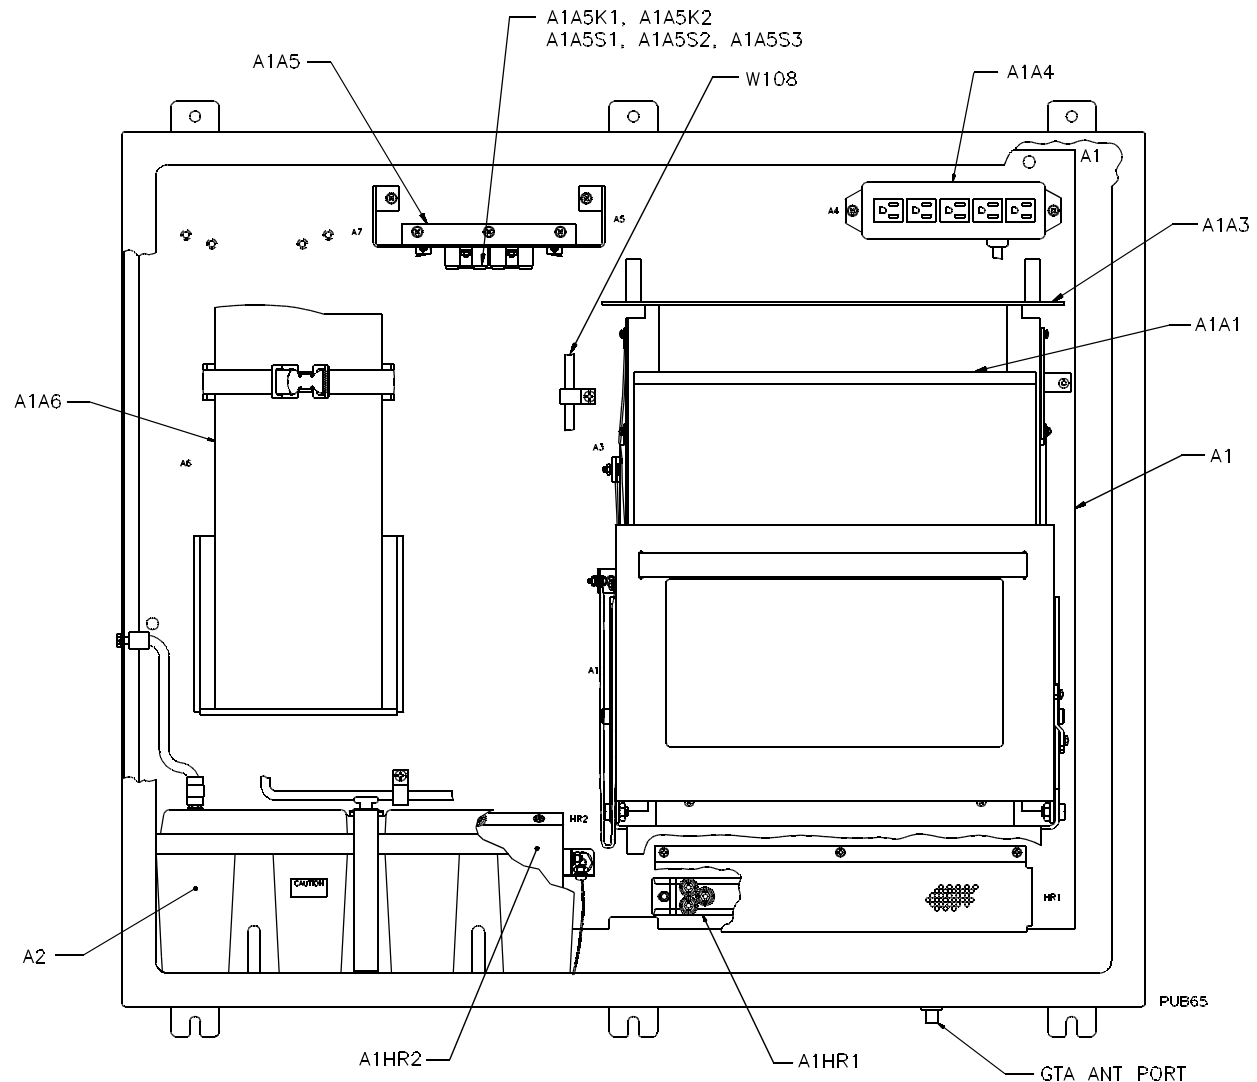

Figure 14.1.8. Auxiliary Box 7A2, Interior View
14.1.9.1 **Enclosure.** The auxiliary box (figure 14.1.8 and table 14.1.2) is a weather-resistant enclosure that measures approximately 42 inches in width and 36 inches high, exclusive of mounting tabs.